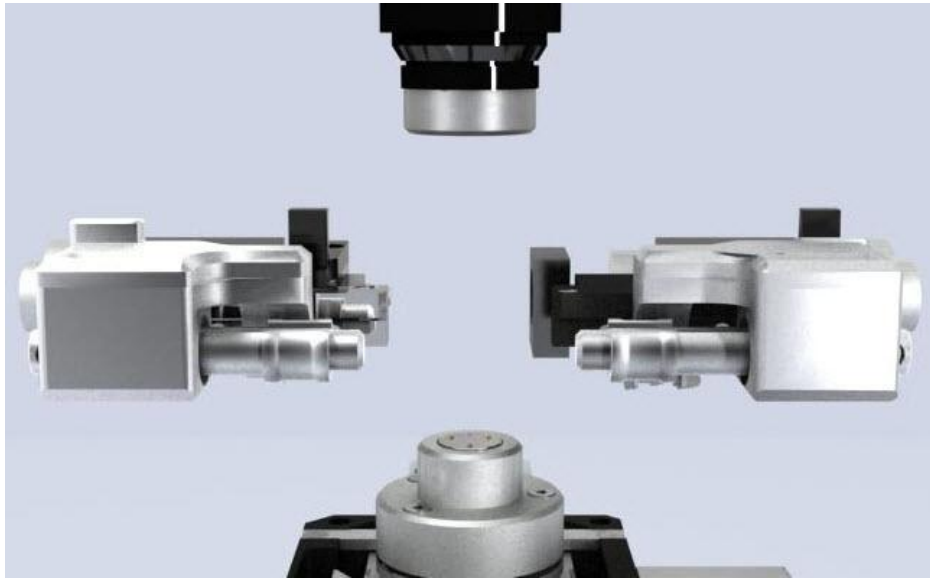

Fig. 1-3. The measuring heads are in inoperative positions
- Inoperative position (Fig. 1-3);